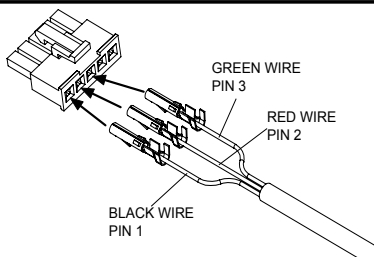

Figure 2
6. Turn pins crimp side up, and insert pins into connector as shown in Figure 2.